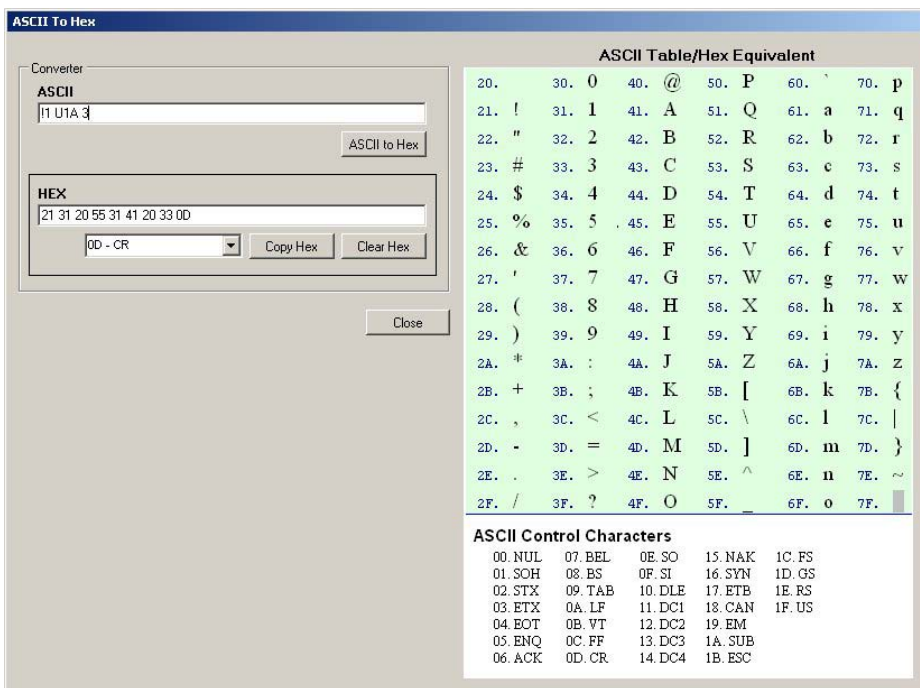

**FIG. 79** Rename Device Libraries dialog
- Right-click the device with undefined fields, and select **Rename Device(s)**. The *Rename Device Libraries* dialog opens (FIG. 79).